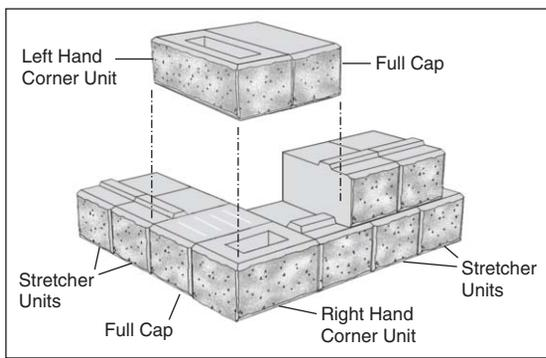

Figure 8
**Outside Corners:** Building outside corners is easy with **Pisa2** and **Roman Pisa**. They are constructed using *Full Caps* and *Right* and *Left Hand Corner* units. When ordering, be sure to specify the height in order to get the right amount of each type of unit. It is best to start the wall in the corner and build out. Follow these simple steps to construct 90° corners (Fig. 8).